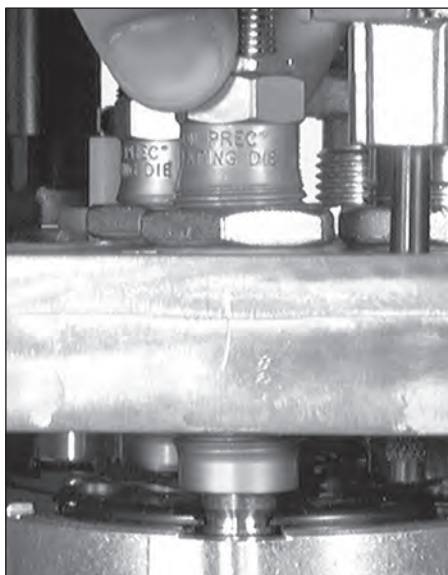

FIG 116
2. Thread the seating die into Station 4. Continue to screw it down until it contacts the case **FIG 116**. Once the die is in contact with the case back the die off (counter clockwise) 1/4 of a turn. Using a 1" wrench snug the locking on the seating die.